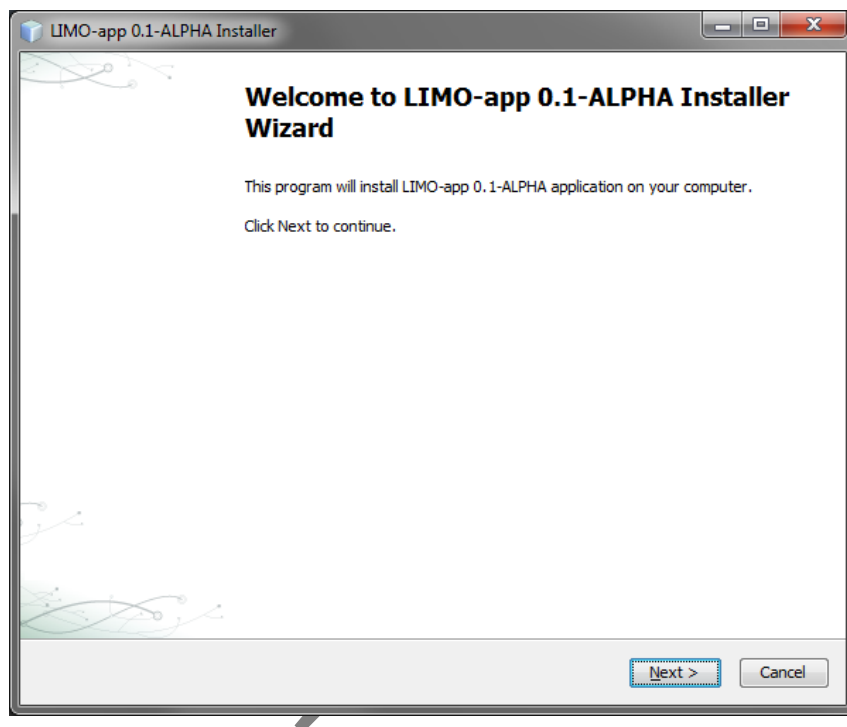

Figure 1: Installation Wizard step 1. Displayed after opening installer file. (.exe)
- Open the installation file. See Figure 1